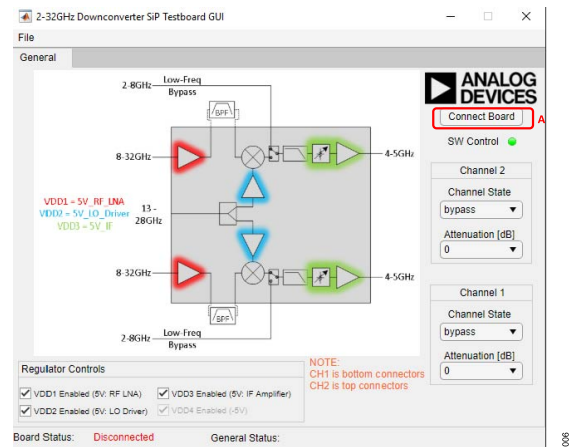
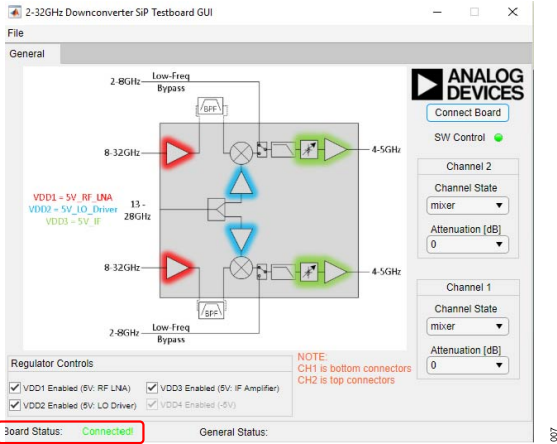

Figure 6. GUI View When Running the **ADEF\_2\_to\_32GHz\_Downconverter\_SiP\_GUI**
Figure 7. GUI View Once Software Has Connected to the ADMFM2000-EVALZ
5. The software opens the GUI view as shown in Figure 6.
6. Click **Connect Board**, as shown in Figure 6 (Label A), and wait until it connects to the ADMFM2000-EVALZ and the **Board Status:** changes to **Connected!**, as shown in Figure 7.